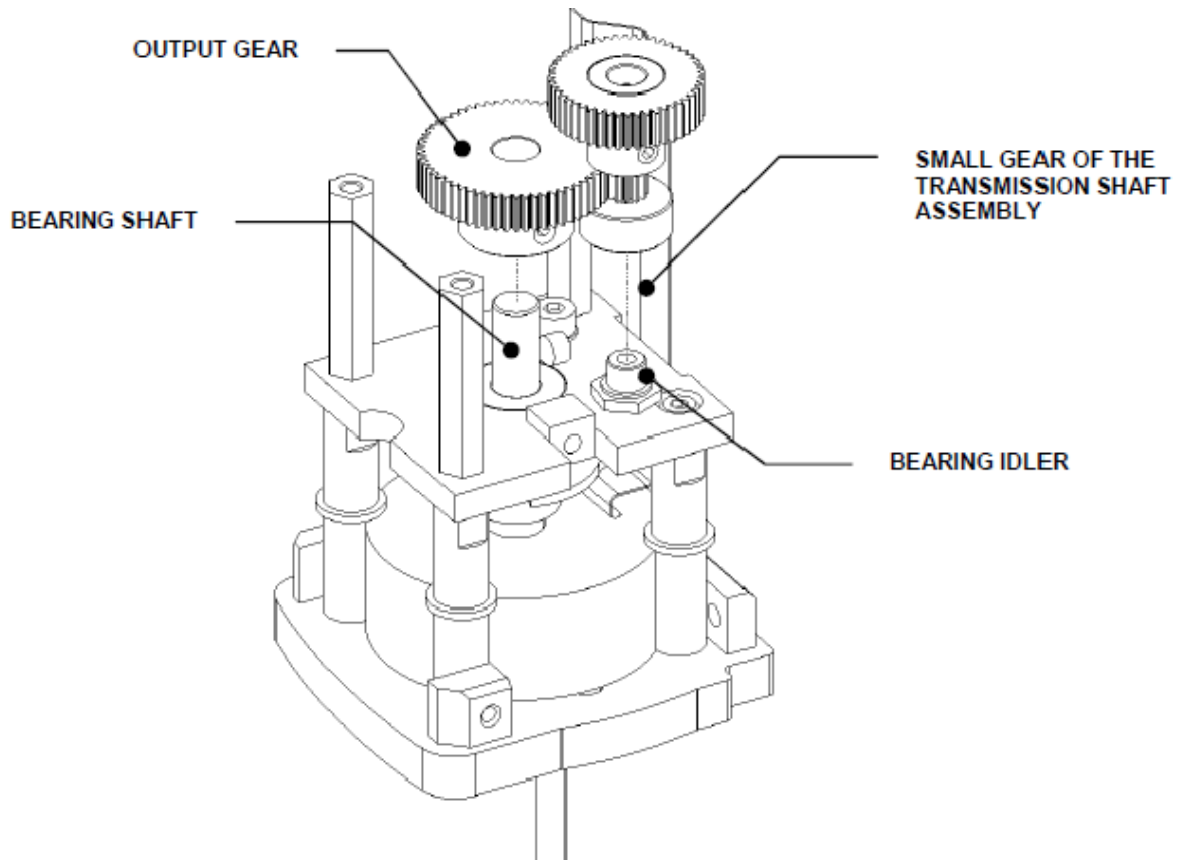

Figure R-10: Output Gear
2. Remove the output gear (Figure R-10).
3. With the Output Gear meshed with the small Gear on the Transmission Gear Assembly, slide the Output Gear onto the Bearing Shaft and the Transmission Gear onto the Bearing Idler (See Figure R-10).